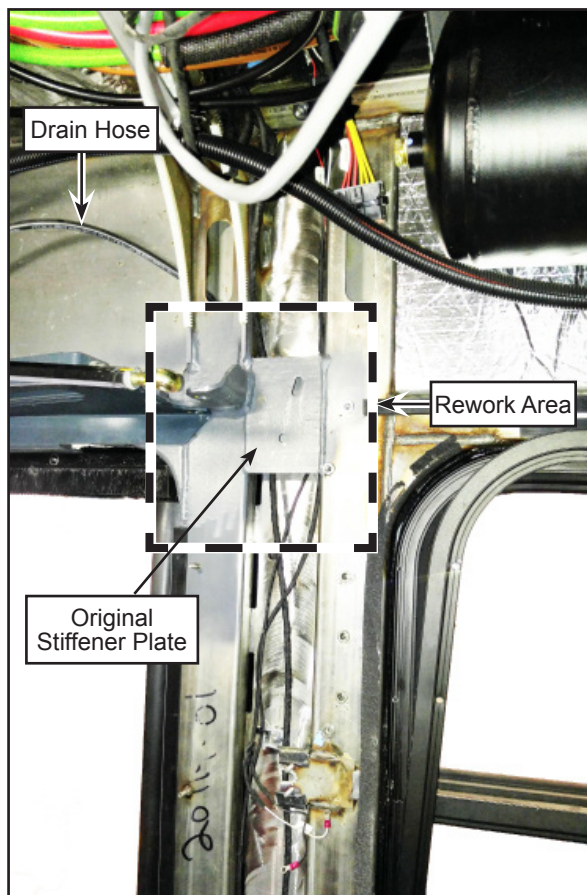
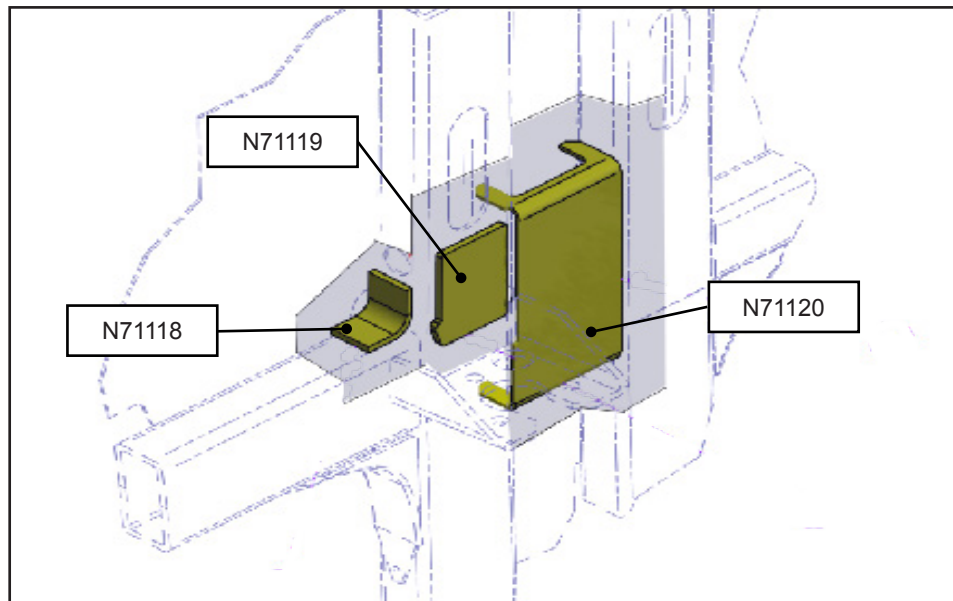

Figure 7 - Secure All Hoses and Wires Away From the Rework Area
Figure 8 - Surface Preparation Area
- 1.16. Remove the wires and the pneumatic hoses from the wall structure, including the pneumatic drain hose into the vertical tube (see Figure 7) and attach them temporarily away from the area to be reworked. Remove and keep the u-channel edge protector.
- 1.18. With a cut-off wheel, remove the original stiffener plate between the two vertical tubes, see Figure 7. This plate will be replaced by N71120, see Figure 8.
- 1.19. Surface preparation is very important. Grind as required to get smooth flat surfaces without wobbles. Remove existing welding spatters. The area to prepare has to be approximately 2 in. wider than the area covered by the new stiffening plates. See shaded area in Figure 8 for preparation area to be covered.